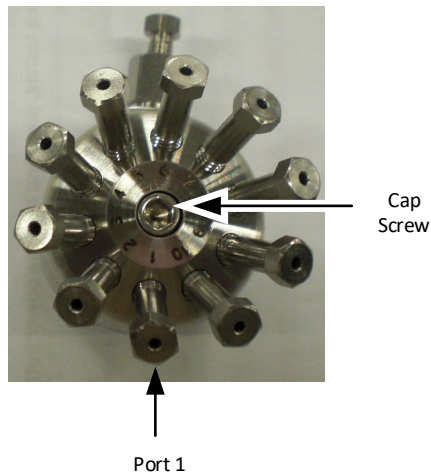

Fig. 7.18. Typical 1 Screw Cap, Showing Port 1 Orientation
1. Remove the hex head cap screw from the center of the valve cap (see Figure 7.18).
12. Install the cap over the alignment pins with port number 1 opposite the air inlet (see Figure 7.18).